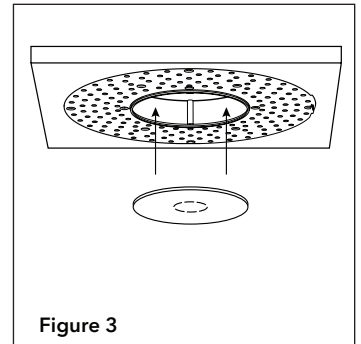

Figure 3
Step 3. Insert protective plug into mud ring (Fig. 3)